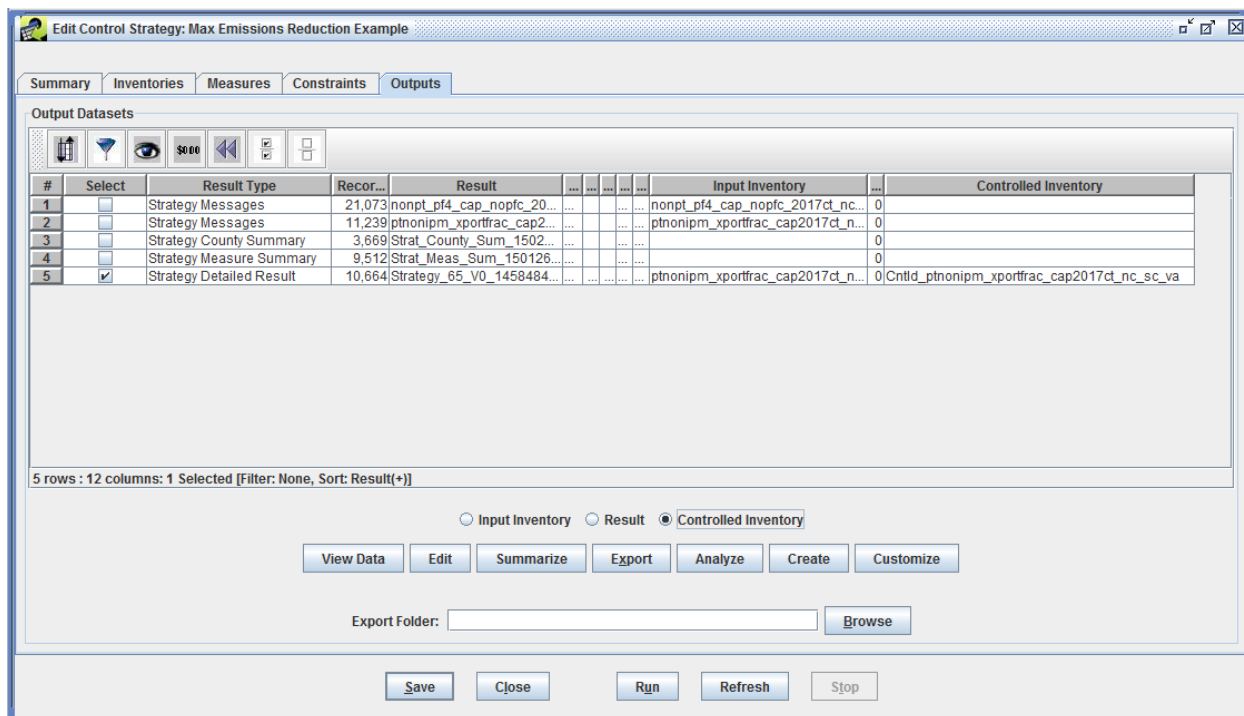

Figure 4.29: Controlled Inventory for Maximum Emissions Reduction Example
Click **Create** to receive a prompt to **Enter a name prefix for the controlled inventories**; for this exercise, enter **training** and click the OK button. Cancelling this prompt will result in a controlled inventory with no name prefix. The status of the inventory creation will be shown in the Status window. Once the controlled inventory has been successfully created, for all but the Least Cost control strategy types the name of the inventory will appear at the far right of the **Output Datasets** table in the row corresponding to the Strategy Detailed Result. For Least Cost control strategy types, the controlled inventory will show up as rows in the **Output Datasets** table under the “Controlled Inventory” **Result Type**. Figure 4.29 shows an example of where the controlled inventory name is located for a Maximum Emissions Reduction control strategy. Figure 4.30 shows an example of where the controlled inventories are located for a Least Cost control strategy.
**Step 5-14: Viewing a Controlled Inventory.** To view the data for a controlled inventory generated from all but the Least Cost control strategy types, select the **Controlled Inventory** radio button and click **View Data** (Figure 4.29). For Least Cost control strategy types use the checkbox in the **Select** column of the **Output Datasets** table to select a controlled inventory, select the **Result** radio button, and click **View Data** (Figure 4.30). The data for the controlled inventory dataset will appear in the **Data Viewer**.